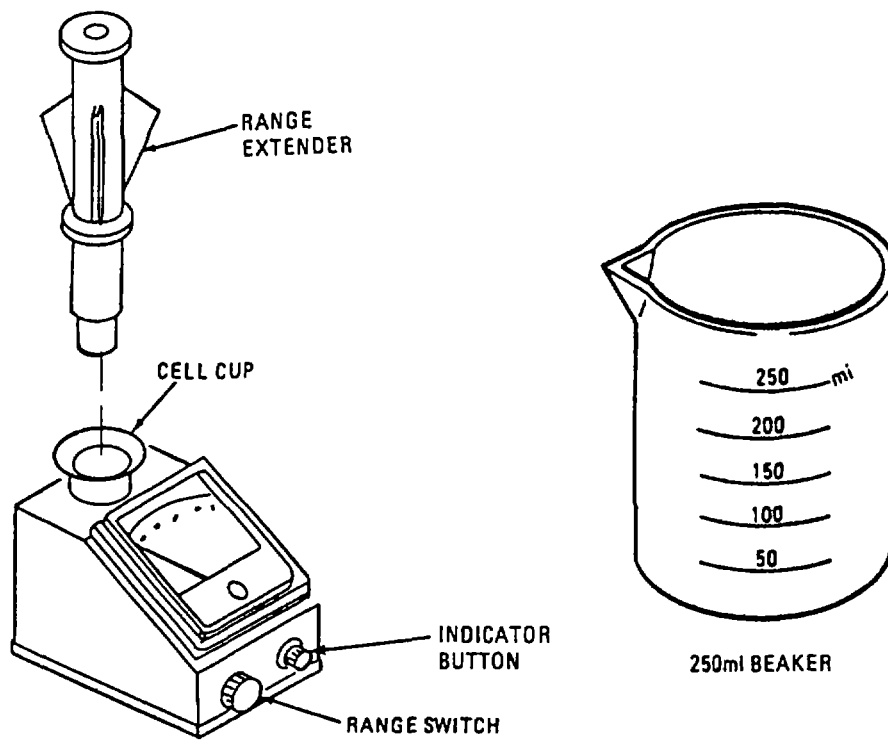

Figure 2-32. Total Dissolved Solids (TDS) Meter.
- k. Unpack Total Dissolved Solids (TDS) Meter. Refer to figure 2-32.